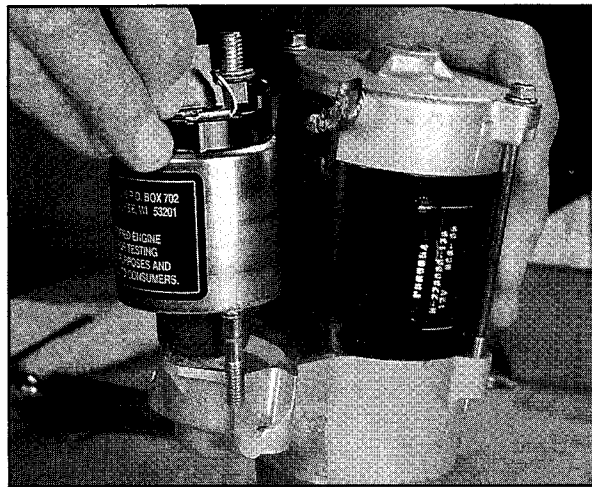

Fig. 29
3. Lift solenoid to disengage drive lever from plunger, Fig. 29.